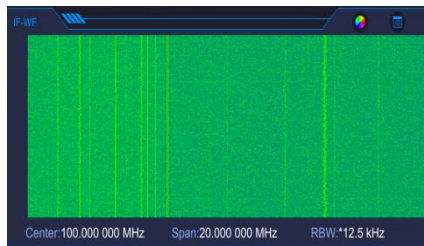

Fig. 4.6 Intermediate Frequency Waterfall Plot
- b) Intermediate frequency waterfall plot: the spectrum information within the bandwidth is displayed through the waterfall plot. The center frequency, bandwidth and resolution bandwidth can be set, and the parameters are associated with the intermediate frequency spectrum chart. As shown in Figure 4.6.